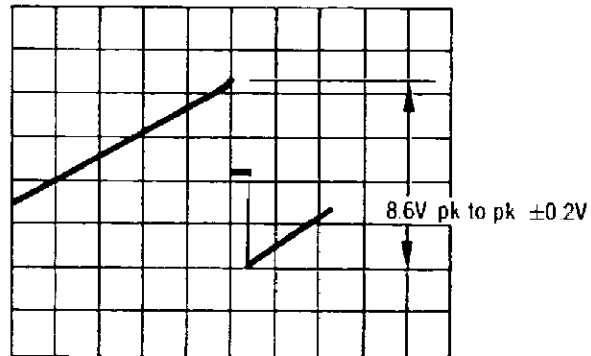

Figure 5-27. YTF DAC Adjustment
6. Adjust A5A5R60. Peak for a voltage reading of 8.6V peak to peak  $\pm 0.2V$ . See figure 5-27.